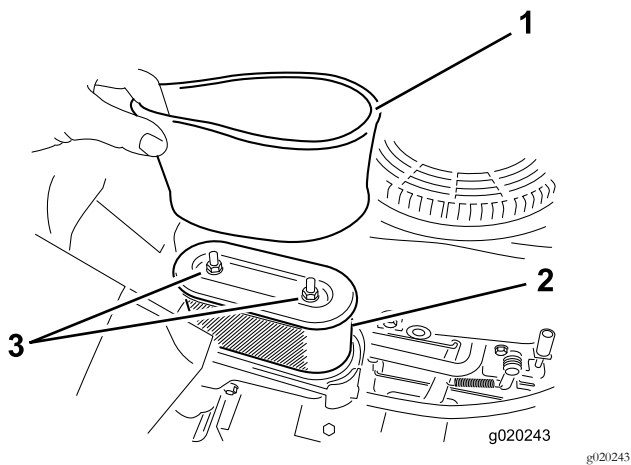

Figure 36
4. Carefully remove the foam and paper filter elements from the air-cleaner housing (Figure 36).
1. Install the foam filter onto the paper filter (Figure 36).